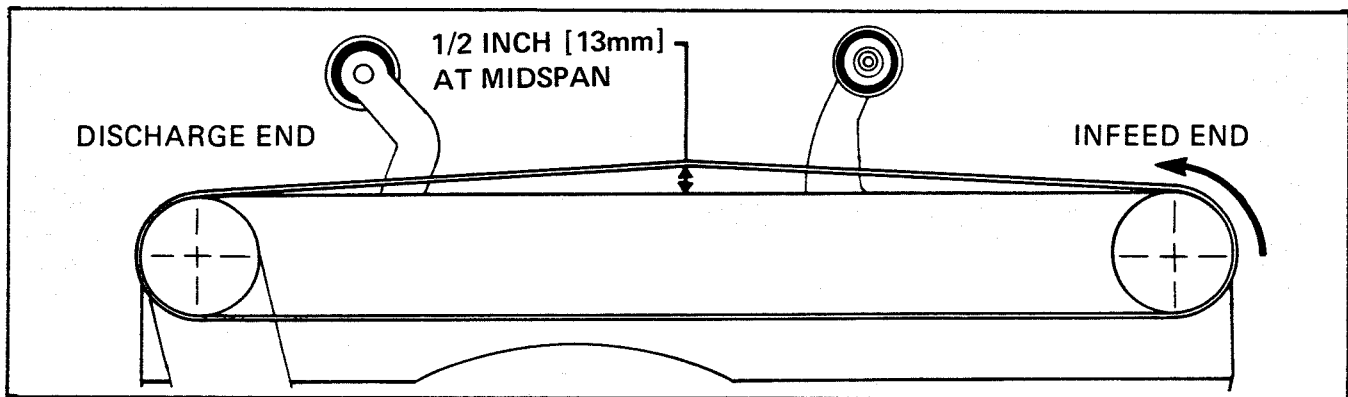

Figure 31B - Box Drive Belt Tension Adjustment - Lower Taping Head Shown
Step 1. Tension is obtained by uniform tightening of the adjustment screws so that a moderate pulling force of 7 to 8 lbs. [3.0 to 3.5 kg] applied at the midspan will deflect the belt 1/2 inch [13 mm]. Refer to Figure 31B. This will assure positive contact between the belt and the drive pulley on the discharge end of the taping head.